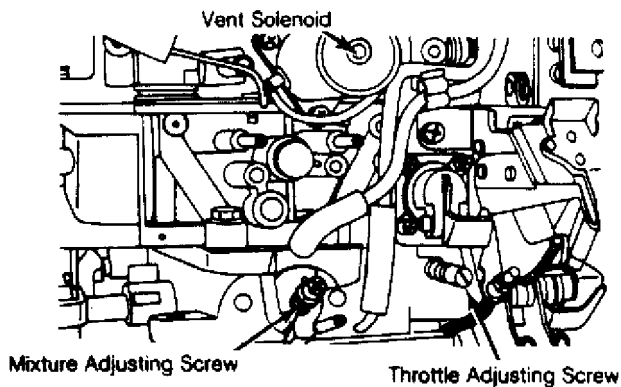

Fig. 6: Carburetor Adjusting Screw Locations
3) To adjust idle mixture, set idle speed to idle set specification by turning throttle set screw (automatic transmission in "N"). Set idle speed to highest RPM obtainable by turning mixture screw. Reset idle speed to idle set specification by turning throttle screw. See Fig. 6.